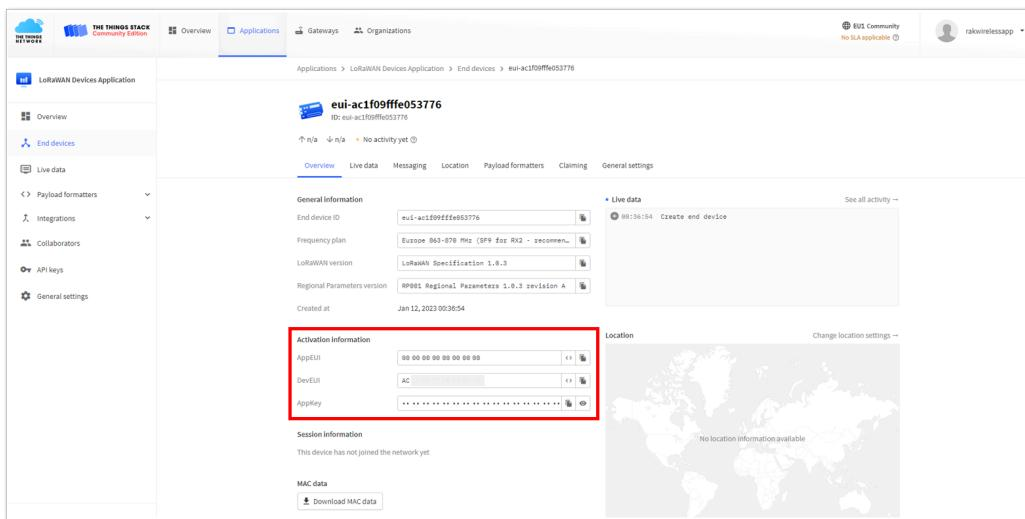

Figure 49: OTAA device successfully registered to TTN
6. You should now be able to see the device on the TTN console after you fully register your device, as shown in **Figure 49**.